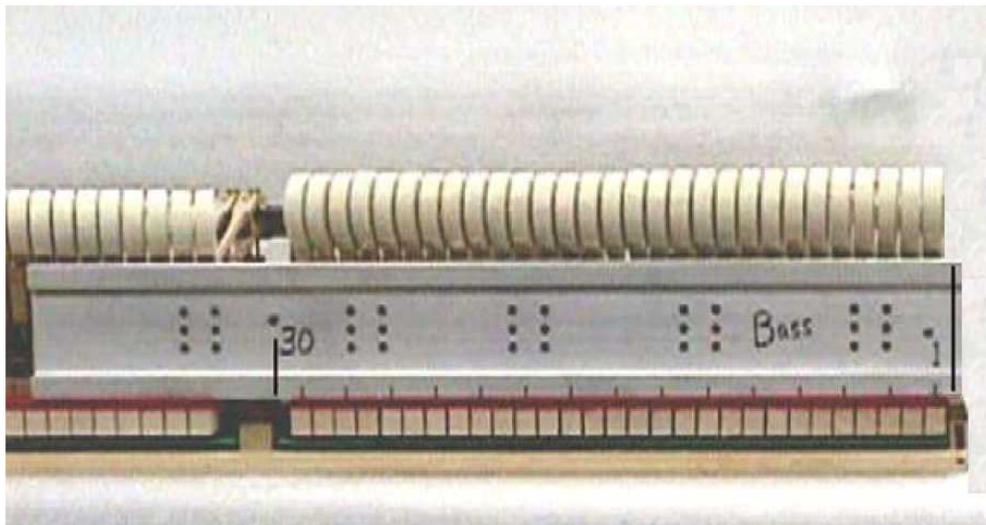

Figure 2B
- B. **Place and mark the rail blanks.** Position solenoid rail blank on damper lift felt centering rail bracket locations for best support. The mounting brackets should be supporting close to the ends of the section.(Figure 2B)